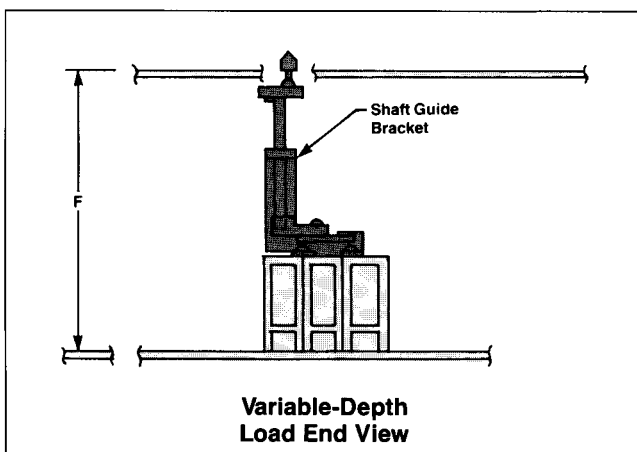

Figure 3
- If installing variable depth kit, measure distance **F** from breaker mounting surface to outside of cover (Figure 3). If distance **F** is less than 8 in., remove shaft guide bracket.